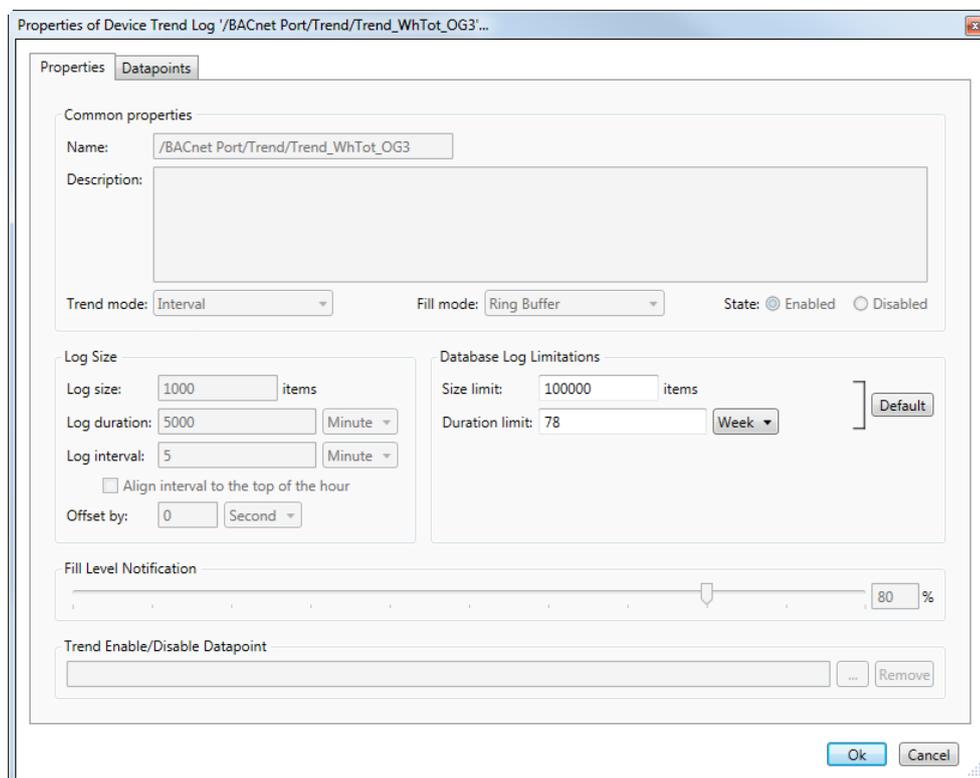

Figure 141: Device Trend Log Properties
2. The properties dialog is opened (see Figure 141). You can only modify the **Database Log Limits** (refer to Section 6.16.1) parameters. The other parameters are defined by the device configuration and cannot be edited.